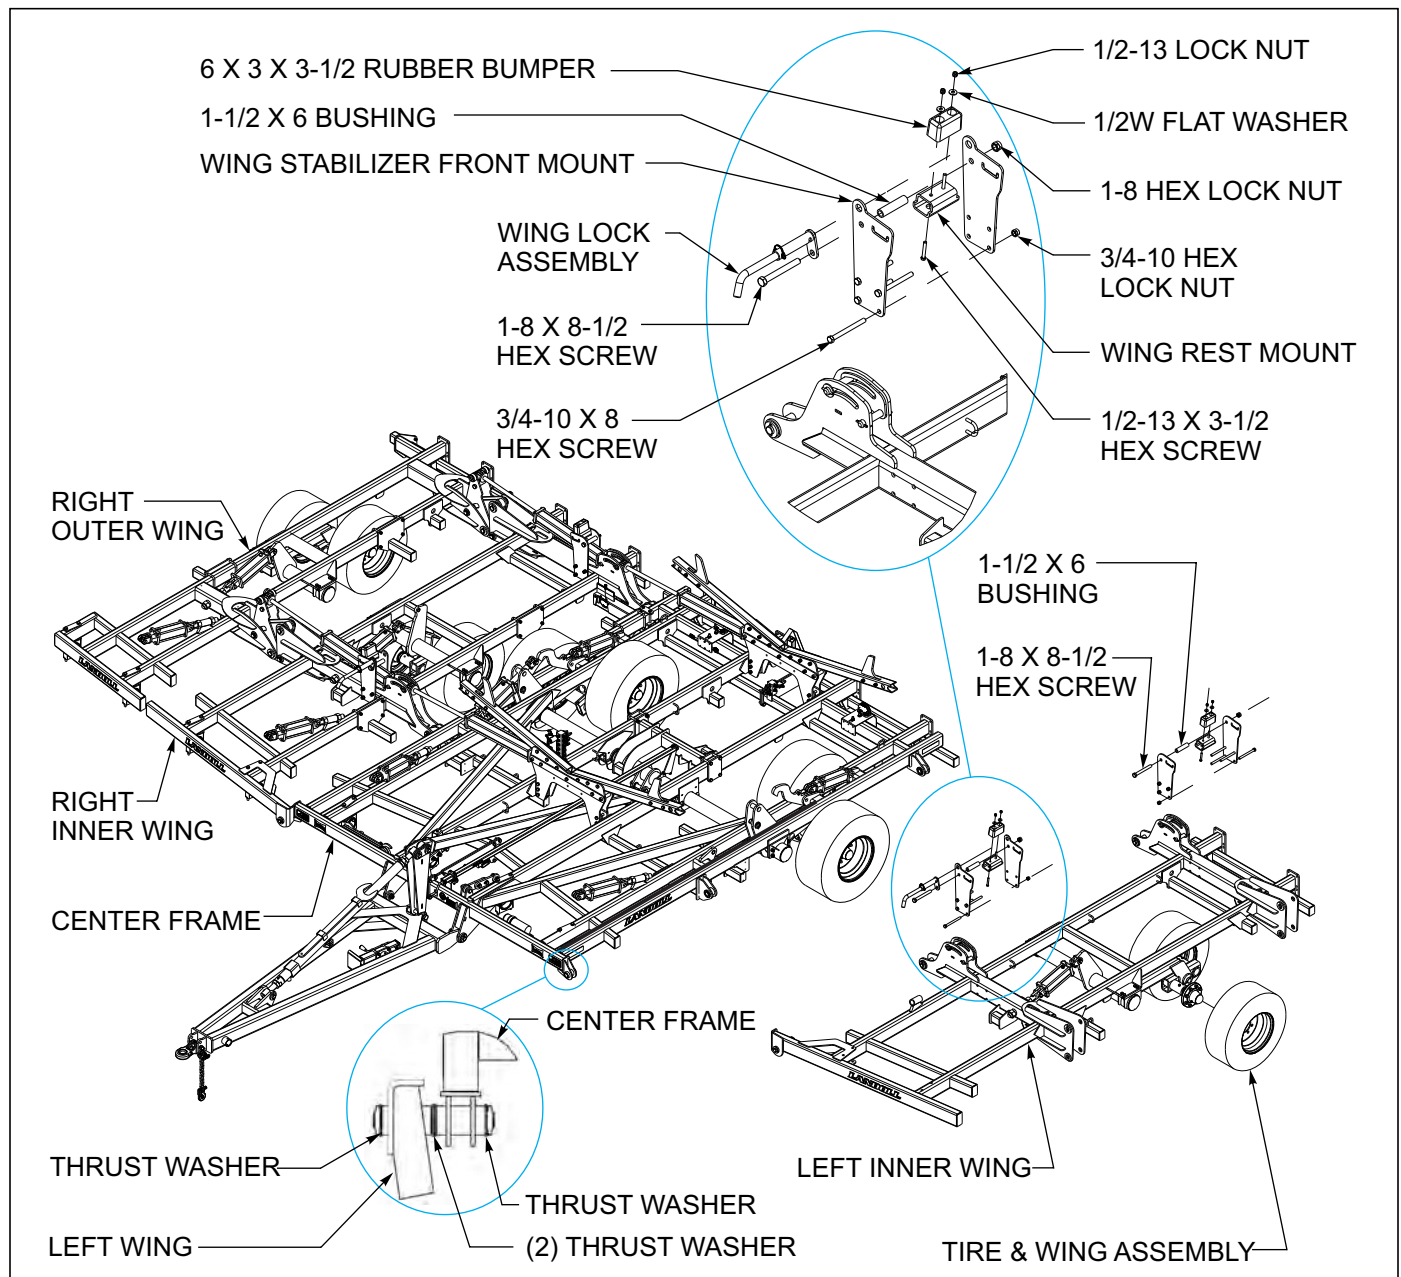

Figure 3-9: Inner Wing Installation - 38'
1. Assemble the inner wings to the center frame as shown in **Figures 3-9 & 3-10**. Installation of the front hinge pin as shown **Figures 3-9 & 3-10** with thrust washer on both ends and two in the middle is recommended first. Then the middle hinge pin and finishing with the rear pin. The center and rear hinge pins will only have thrust washers on the front side of the center frame hinge ear.
3. Assemble the wing stabilizer mounts as shown in **Figures 3-9 & 3-10** along with the wing lock assembly to the front mounts.